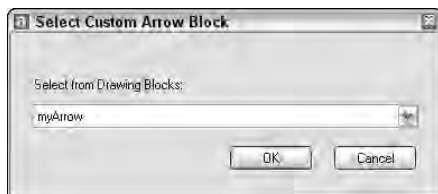

Figure 15-7: The Select Custom Arrow Block dialog box
3. In the first and second drop-down lists, choose User Arrow. The Select Custom Arrow Block dialog box opens, displaying the blocks available in the drawing, as shown in Figure 15-7.